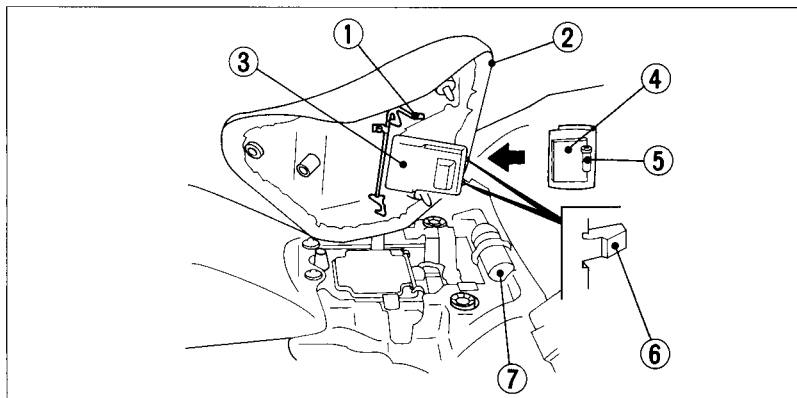

Fig. 2-20
The storage compartment (Fig. 2-20) is behind the seat (2). To open the compartment, remove the seat by lifting up the seat lock lever (1), then press down on the lock tab (6) on the cover. The Owner's Manual (4) and air pressure gauge (5) should be stored in the storage compartment.